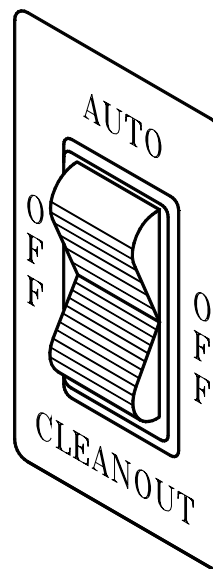

Fig. 15
An alternate way to start the refrigeration cycle is to move the control switch (Fig. 15) to the **"AUTO"** position, using your fingers lift the rod resting on top of the spigot plunger until you hear the spigot switch click, and hold for three seconds - or simply open the spigot just far enough to activate the spigot switch for three seconds dispensing as little product as possible.
5. To start the refrigeration cycle on single phase machines, set the control switch (Fig. 15.) to the **"CLEANOUT"** position for approximately 1-1/2 seconds until a click is heard, then rapidly move the switch to the **"AUTO"** position.
3. Set the control switch (Fig. 15) to the "**OFF**" (center) position. Close the spigot handle before proceeding to disassembly and cleaning.